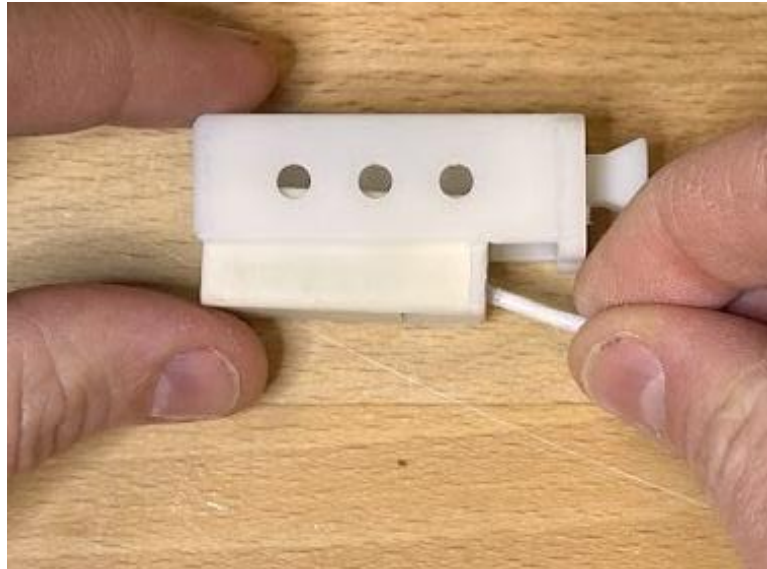

FIGURE 14 - OPM INSTALLATION INTO SLEEVE
1. Insert OPM into sleeve (Figure 14). If uninstalling the OPM, FieldLine Medical has provided a tool to help pop the OPM out of the sleeve.